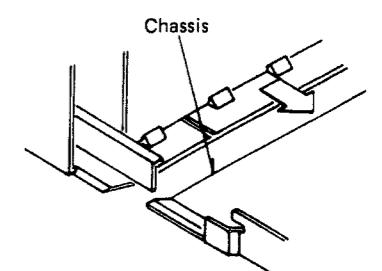

Fig. 9-1
2. Insert the chassis between front panel and keyboard/display P.C.B., then lift the front panel top to fit the front panel on chassis. [Fig. 9-1] Take care not to damage the disc holder.